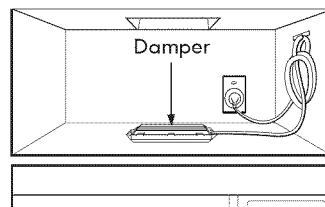

Figure 34
5. Roof vented installation: See **Figure 34**.